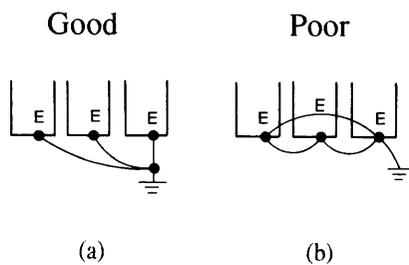
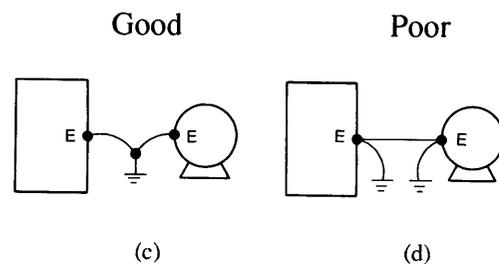

Fig. 3.3 When Grounding Multiple Control Units
Fig. 3.4 When Grounding the Motor and the Control Unit
(2) Wiring the Main Circuit Input/Output
- (a) Phase rotation of the input terminals (R), (S), (T) can be in either direction.
- (b) Do not connect the AC main circuit power supply to the output terminals (U), (V), (W).
- (c) Match the VS-676VH3 output terminals (U), (V), (W) and the motor terminals (U), (V), (W) respectively. When forward run command is given, the motor turns in the clockwise direction when viewed from the load side.
(3) Grounding
- (a) Ground the ground terminal (E) of the control unit and motor according to the type 3 grounding method (100Ω or less).
- (d) When multiple VS-676VH3 are used, ground them as shown in Fig. 3.3 (a), taking care not to form loops as shown in (b). Also be careful not to form loops between the control unit and the motor, as shown in Fig. 3.4 (c).